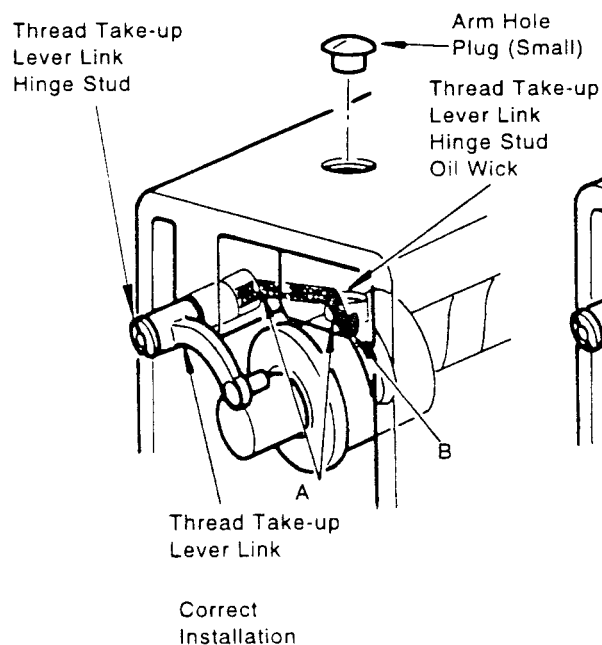
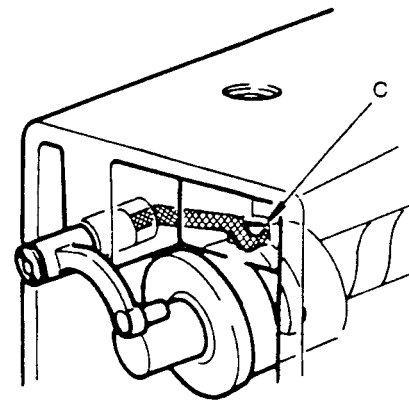

Fig.24
Fig.26
13. Push the end of oil wick leading from the take-up lever link hinge stud back into machine head taking care so that wick is slack over sharp edges of the arm at point A. This will insure free passage of oil. Use tweezers through the access hole at top of machine head to loop the wick and bring it into positive contact with the arm shaft at point B, as shown in Fig. 24.
CAUTION: If the bottom of either oil wick leader is caught on the ledge at point C, as shown in Fig. 26, no oil can be taken up by the wick to be carried to the thread take-up lever link where it is needed. Make sure that the oil wick leaders are pushed all the way down into the smaller hole, without jamming, until they touch the arm shaft as shown in Fig. 24.